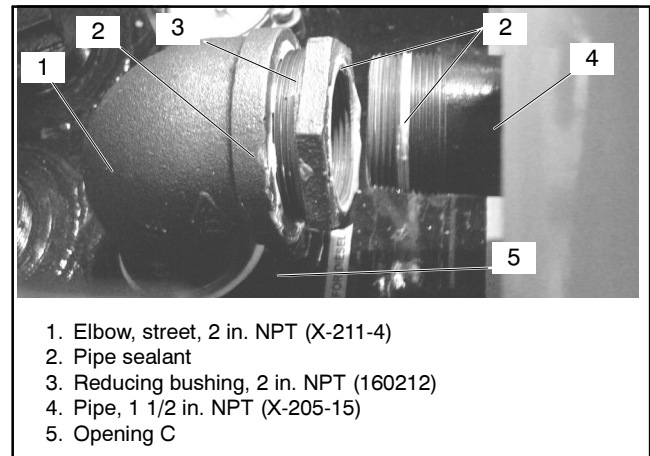

Figure 13 Subassembly into Opening C
- 2.2.4 Apply pipe sealant to threads on 2 in. NPT street elbow X-211-4. See Figure 13.
- 2.2.5 Apply pipe sealant to 2 in. NPT reducing bushing 160212 pipe threads. See Figure 13.
- 2.2.7 Attach 2 in. NPT reducing bushing 160212 to 2 in. NPT street elbow X-211-4. See Figure 13.
- 2.2.8 Attach 1 1/2 in. NPT X-205-15 pipe to 2 in. NPT reducing bushing 160212. See Figure 13.